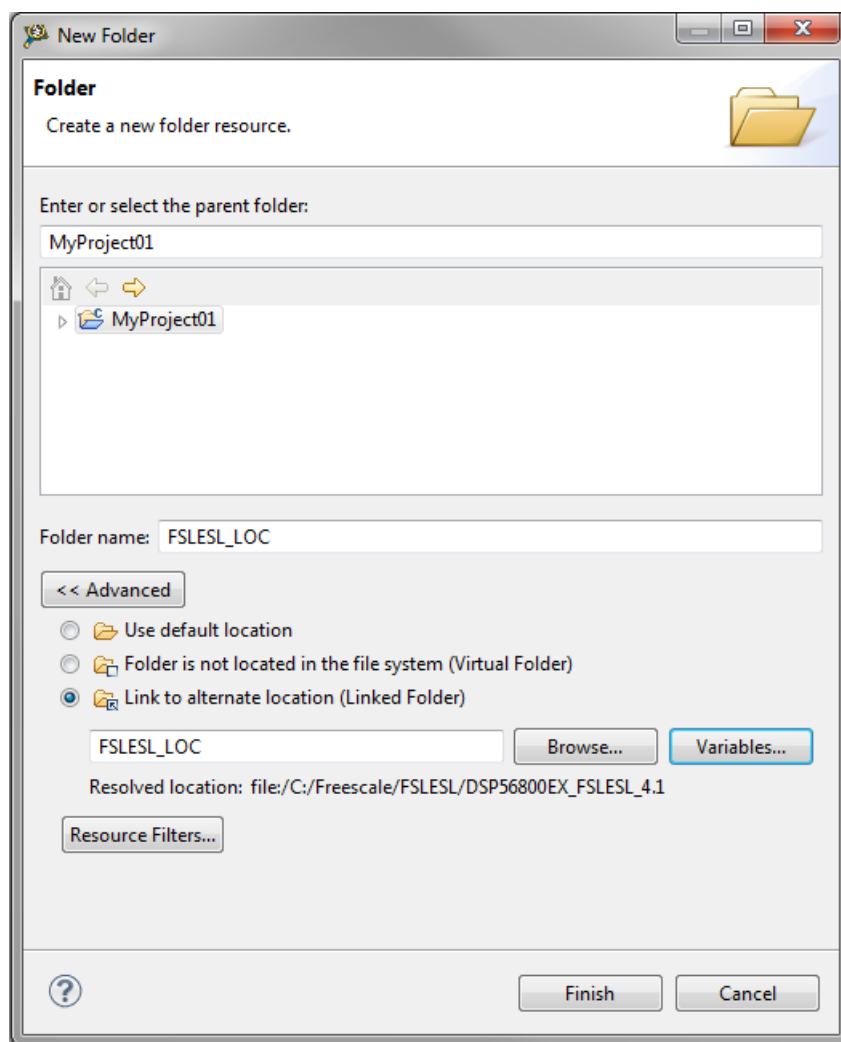

Figure 1-8. Folder link
4. Click Variables..., and select the FSLESL_LOC variable in the dialog that appears, click OK, and/or type the variable name into the box. See Figure 1-8.